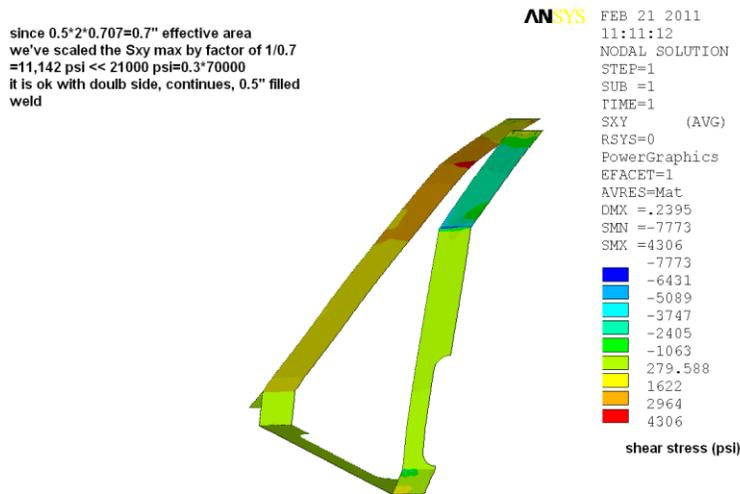
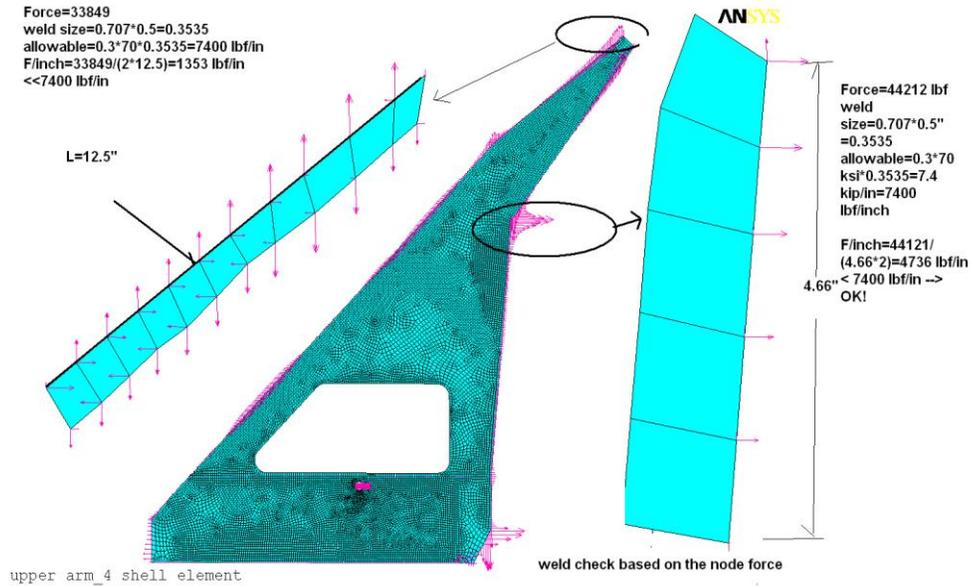

Fig 5 The shear stress plot for the top flange
Fig 6 The node force summation result
- For the connection between Web and top flange, it is a double side, $0.5''$ continuously fillet weld (based on conversation with D Pushka). Therefore, we've scaled the shear stress of the top flange by a factor of 1.43 ($1/0.7$) to estimate the shear stress on the weld connection as shown in Fig 5. The maximum seems around 11 ksi $< 0.3 \cdot 70$. The node force summation also indicates the weld stress is fine for this region as shown in Fig 6.